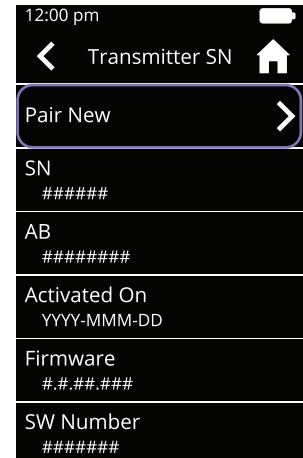

Figure 80
- e. Tap **Pair New** (see Figure 80)